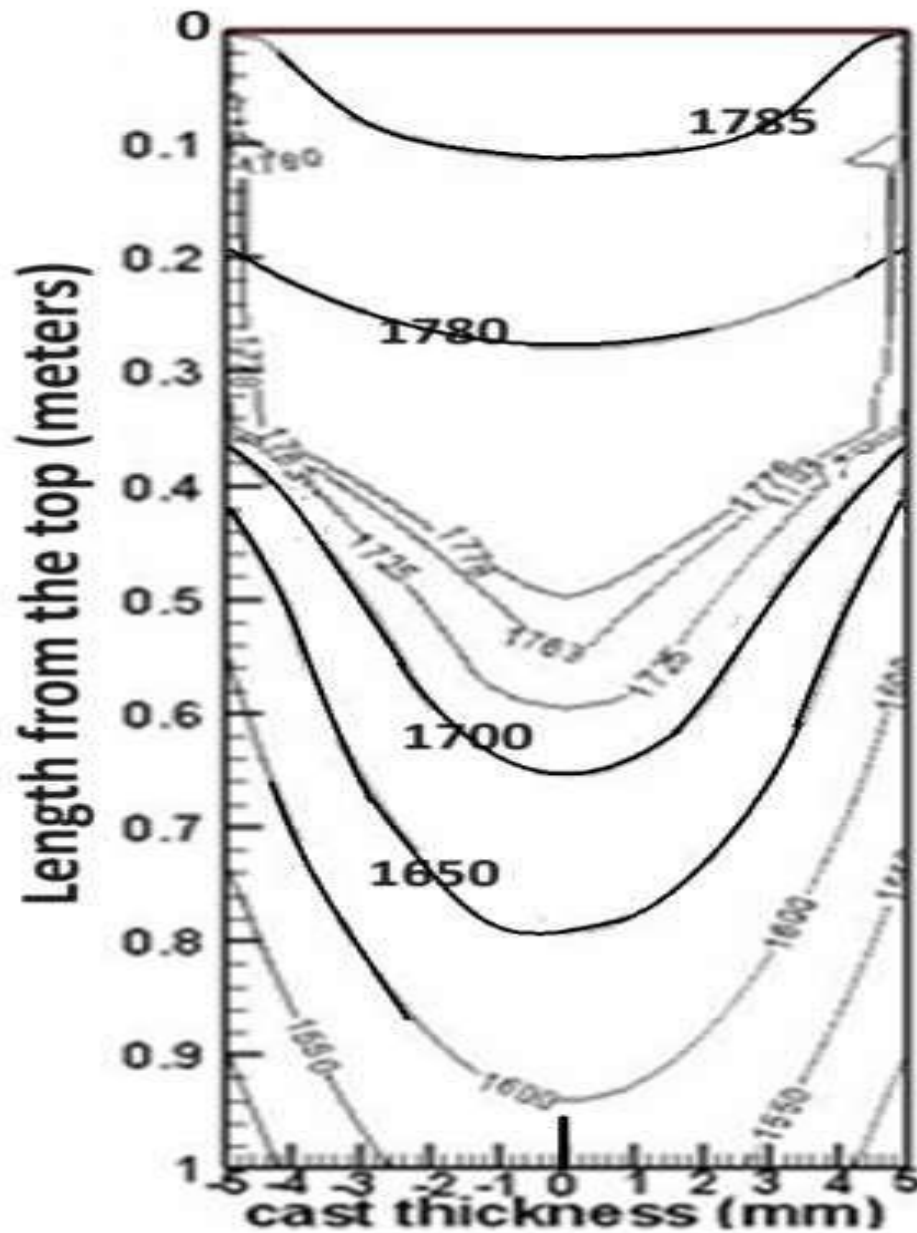

Fig. 2: Temperature contours across the cross section of a 1 meter long and 10 mm cross section of a continuous cast rod.
2. The temperature contours across the cross-sectional area (area 1 meter \times 10 mm) of a continuous cast rod is shown in figure 2. The values of various iso-temperature (in $^{\circ}\text{C}$) contours at different locations of the cross section are shown on the respective contour lines. Extract the data for the contour lines with values of 1785 $^{\circ}\text{C}$, 1780 $^{\circ}\text{C}$, 1700 $^{\circ}\text{C}$ and 1650 $^{\circ}\text{C}$ and then replot Fig. 2 as line plots (continuous lines), with solid lines for each contour lines, but with different colours